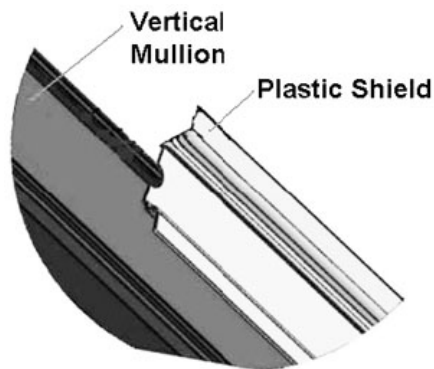

Figure 3.
- e. Place the plastic extrusion notch toward the top of the Mullion. Refer to Figure 3.